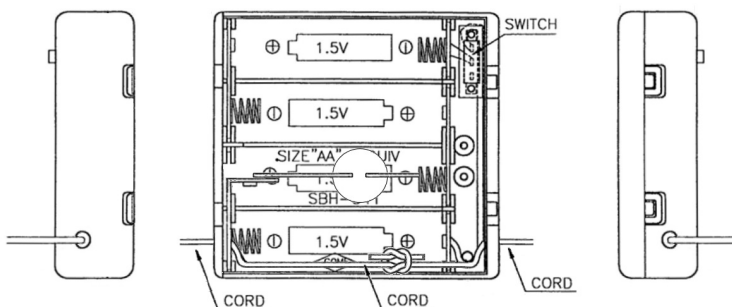

Fig 4U - LED
- 11 - Position the LED in the hole with long lead toward the spring. [Fig 4U]
- 14 - Solder the short lead to the bent connector and the long lead to the spring. [Fig 4U].